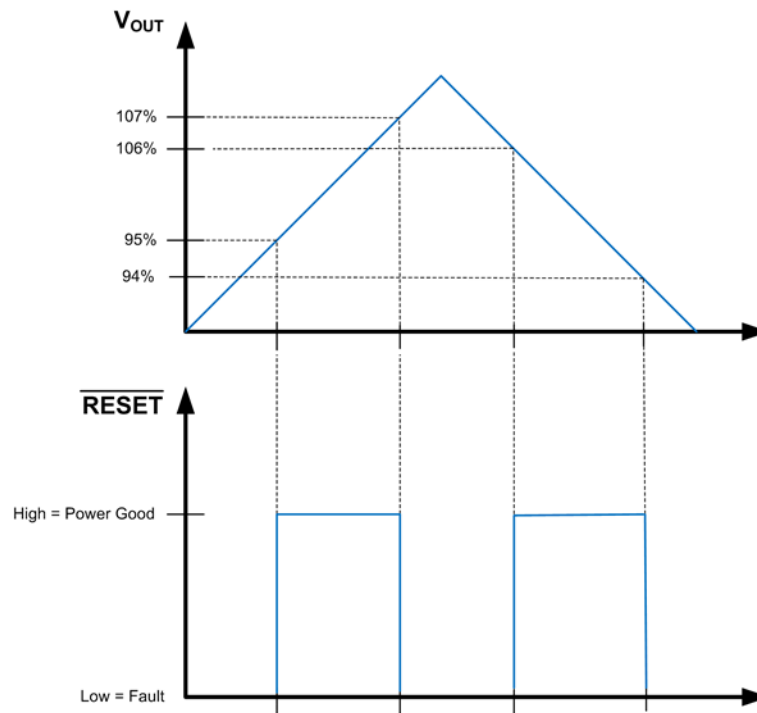
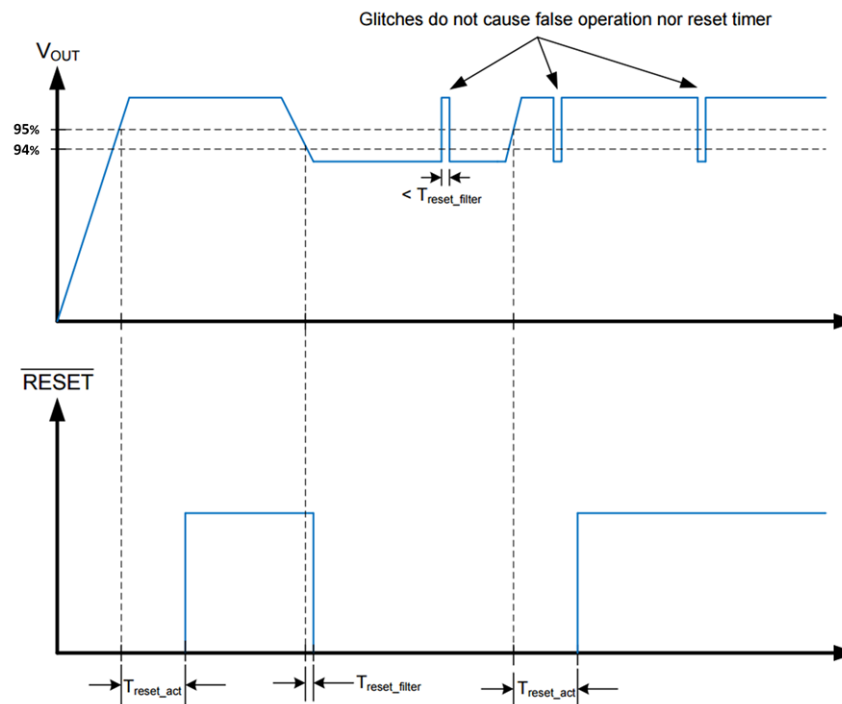
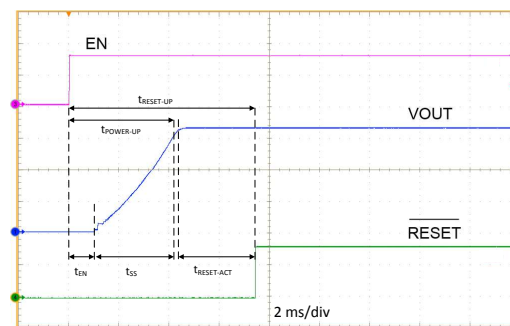

Figure 10. Static RESET Operation
Figure 11. RESET Timing Behavior
Figure 12. Typical Start-Up Waveform
- A delay has been added between the point at which the output voltage is within specified limits and the flag asserts Power Good. A glitch filter prevents false flag operation for short excursions in the output voltage, such as during line and load transients. See Figure 11 and Figure 12 for more detail.
Because the $\overline{\text{RESET}}$ comparator and the regulation loop share the same reference, the thresholds track with the output voltage. When EN is pulled low, the $\overline{\text{RESET}}$ flag output is forced low. When the device is disabled, $\overline{\text{RESET}}$ remains valid as long as the input voltage is ≥ 1.5 V. $\overline{\text{RESET}}$ operation can best be understood by reference to Figure 10 and Figure 11. Output voltage excursions lasting less than $T_{\text{RESET-filter}}$ do not trip $\overline{\text{RESET}}$. Once the output voltage is within the prescribed limits, a delay of $T_{\text{RESET-act}}$ is imposed before $\overline{\text{RESET}}$ goes high. This enables tighter tolerance than is possible with an external supervisor device while also expanding the system allowance for transient response without the need for extremely accurate internal circuitry.
A typical start-up waveform is shown in Figure 12 along with timing definitions. This waveform indicates the sequence and timing between the enable input, output voltage, and $\overline{\text{RESET}}$. From the figure, the user can define several different start-up times depending on what is relevant to the application. Table 3 lists the timing definitions and typical values.